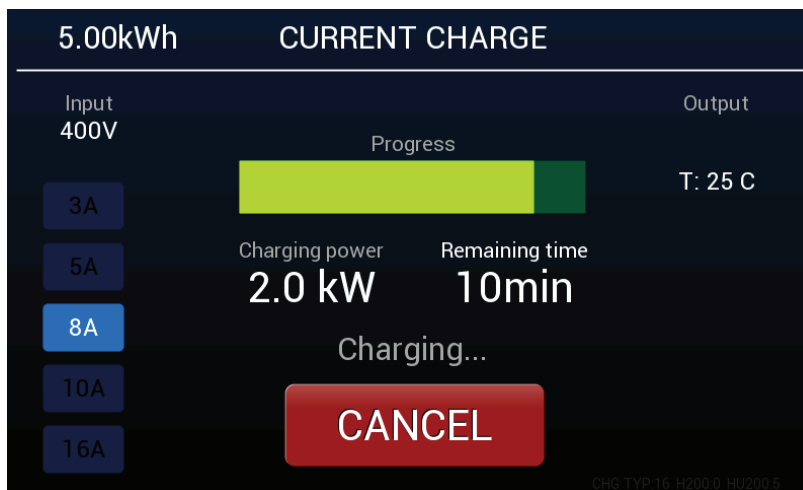

Figure 010
8. Charger display will show charging process, power and remaining time to fully recharge the batteries. Charging procedure can be stopped at any time by pressing “CANCEL” on the charger display, see Figure 010.